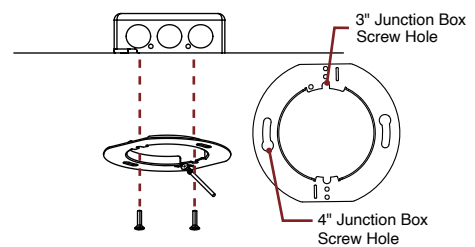

Fig. 2
3. Connect the mounting bracket to the junction box using screws. (Fig. 2)